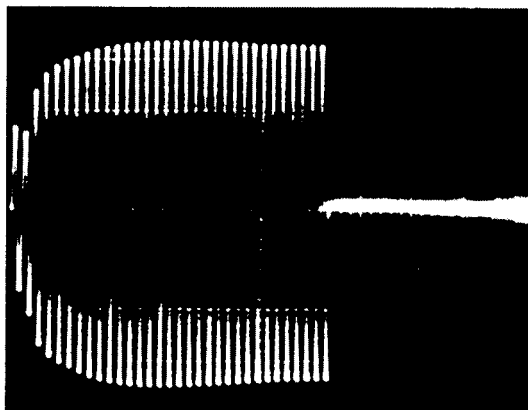

Figure 9c
7.1.6.2 Observe the output on the scope. Verify that the wave shape is substantially as shown in Fig. 9c; confirm for the other channel.